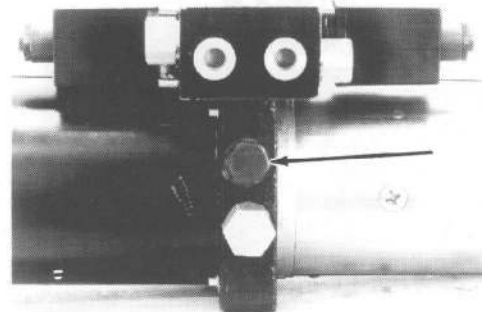

Figure 2-10
6. Install ball and spring (ball facing outside of Endhead). Lubricate O-rings and install check valve body, tighten to 10-15 lb-ft. See Figure 2-10.